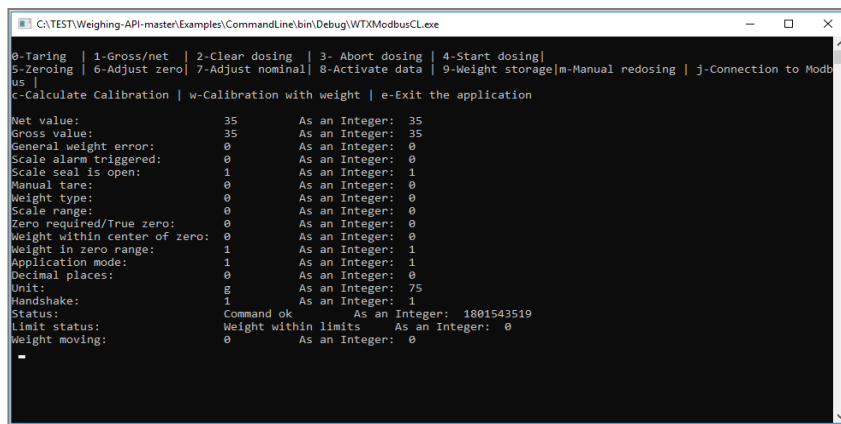

Figure 4.2: CommandLine application window.
- If the application has been built and executed successfully, the window shown in Figure 4.2 appears. All relevant values of your connected WTX terminal are displayed here.